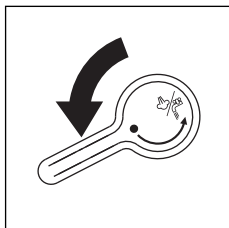

fig. 19
Turn the steam knob anticlockwise (fig. 19). Steam is given off by the cappuccino maker, giving the milk a creamy frothy appearance. To obtain a creamier froth, dip the cappuccino maker into the milk and rotate the container with slow movements from the bottom upwards.
1. Discharge a little steam for a few seconds by rotating the steam knob (fig. 19). This empties any milk left inside the steam tube.